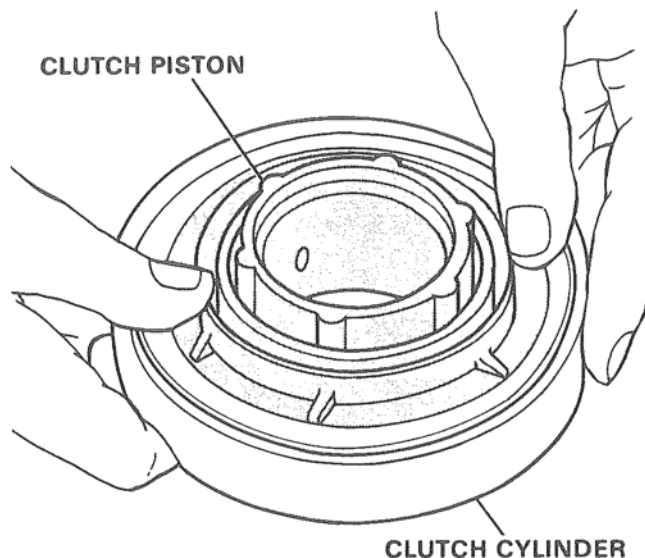

Figure 32. Removing Forward Clutch Piston.
4. Piston can be removed from forward clutch cylinder to position in Figure 32, by applying compressed air to clutch cavity through one of three (3) holes in inside of forward clutch cylinder, while other holes are blocked.